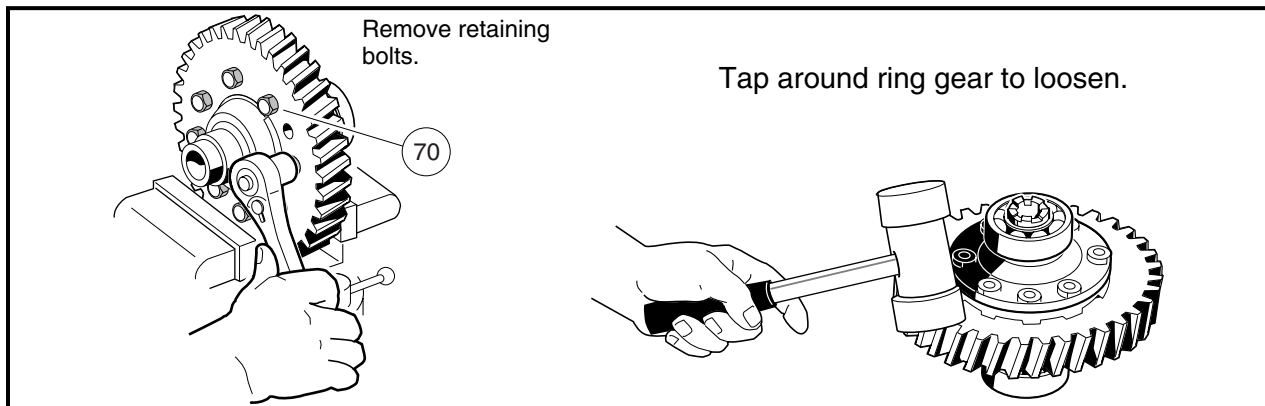

Figure 19-17 Remove Ring Gear
1. Remove eight ring gear retaining bolts (70), and remove the ring gear from the assembly. It may be necessary to tap the ring gear off with a plastic or rubber mallet (Figure 19-17, Page 19-11). See following NOTE.